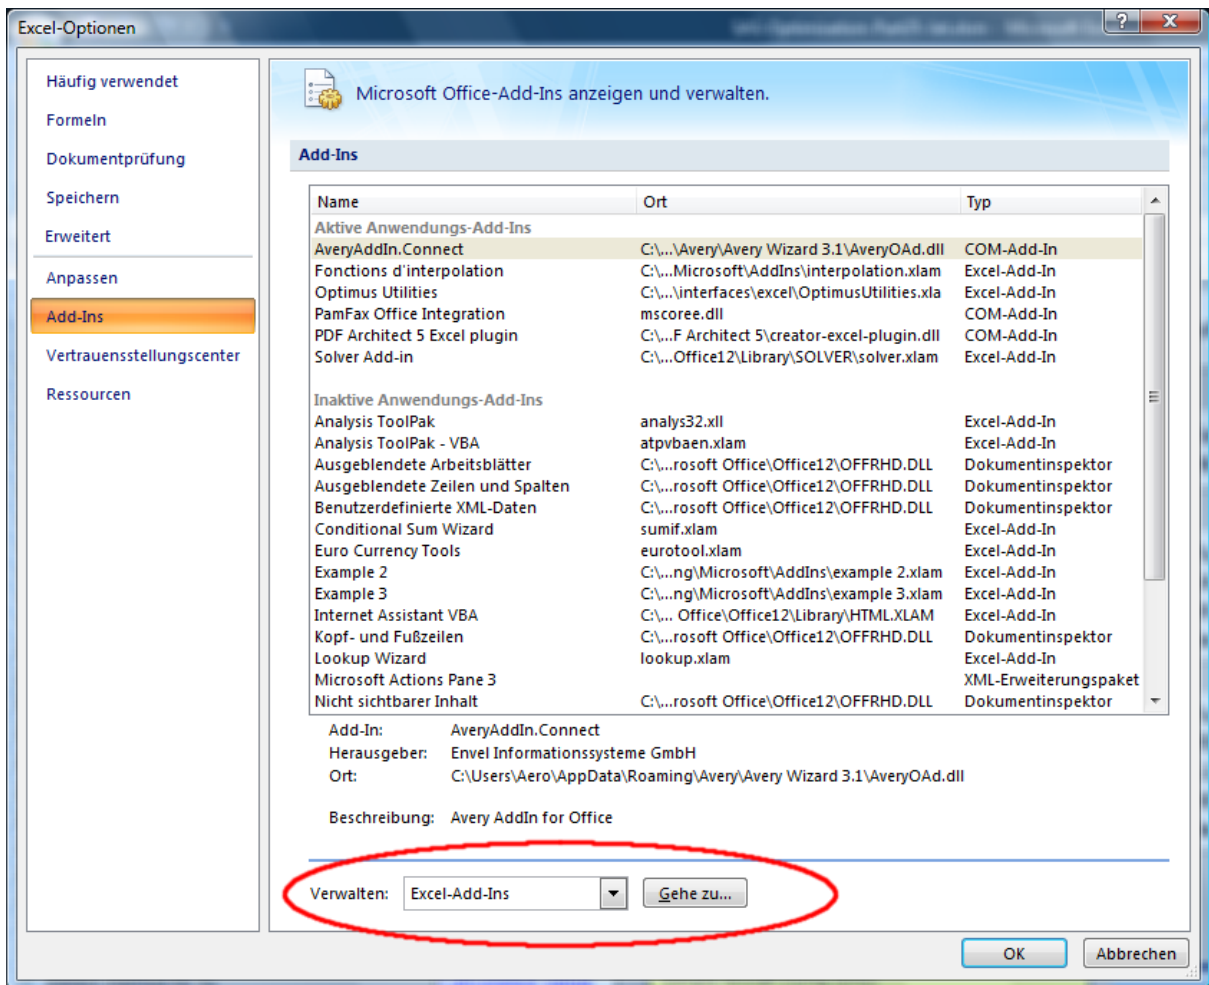
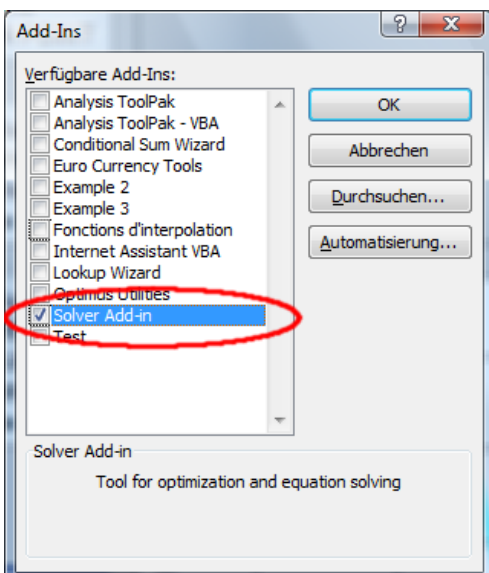

Figure 1: Go to Add-Ins in Excel
Figure 2: Make sure the Solver is included
- 1.) **Activate the Solver.** Go to "Add-Ins" as shown in Figure 1. Make sure the Solver is included as shown in Figure 2.